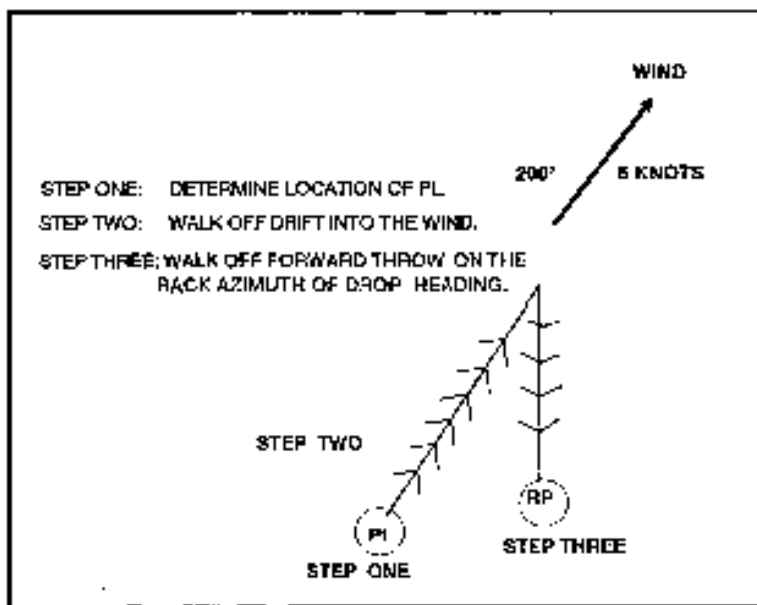

Figure 6-3. Release point location.
STEP 3. Determine the forward throw. Once you have paced off the drift, walk off the forward throw. To do this, shoot a back azimuth of drop heading and walk the distance of the forward throw (for Air Force aircraft forward throw, refer to Table 6-5. For rotary wing aircraft, divide the drop airspeed in half, and express in meters. For example, the drop speed of 90 knots equals 45 meters of forward throw. The release point is at the end of the forward throw (Figure 6-3).